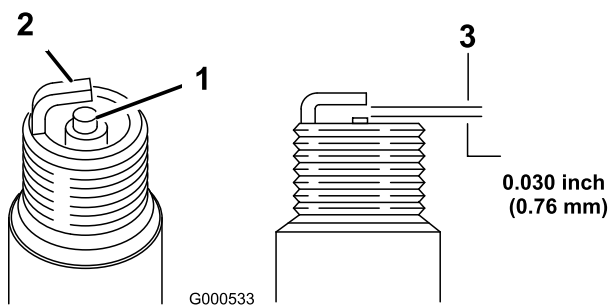

Figure 26
- Set the gap on the plug to 0.030 inch (0.76 mm) (Figure 26).